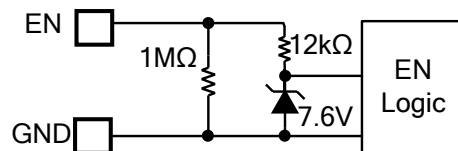

Figure 2: Zener Diode between EN and GND
The MP5402M has enable control (EN). Pulling EN high enables the IC; pulling EN low disables the IC. Connect EN to V_{IN} through a resistor for automatic start-up. An internal 1MΩ resistor from EN to GND allows EN to float to shut down the IC. EN is clamped internally using a 7.6V series Zener diode (see Figure 2). Connect EN through a pull-up resistor to any voltage